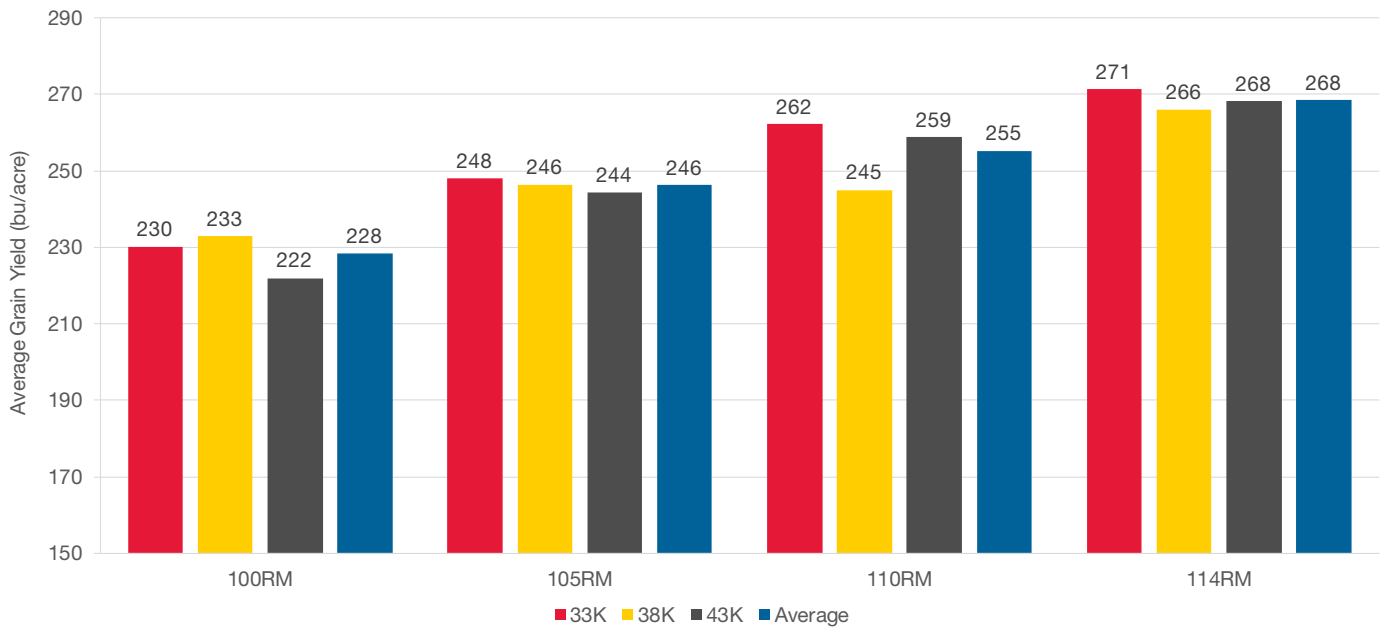
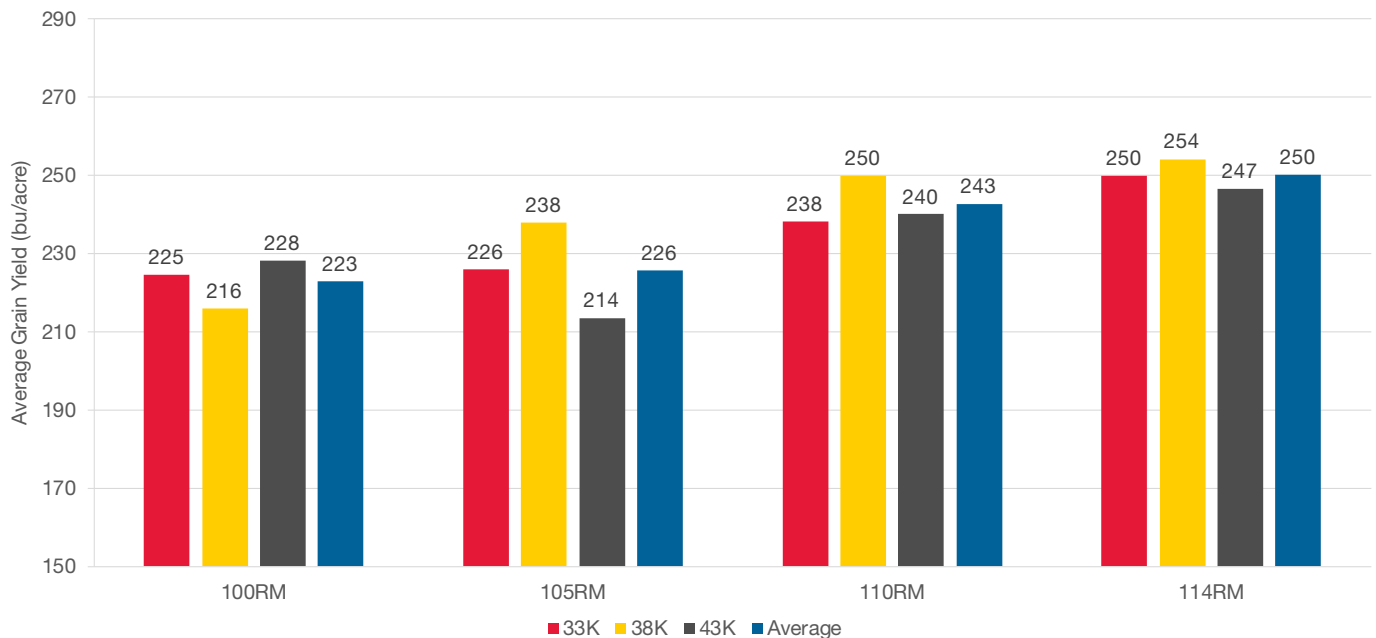

Figure 1. Effects of seeding rate on corn product performance in 20-inch row spacing.
Figure 2. Effects of seeding rate on corn product performance in 30-inch row spacing.
- Except for the 100 RM product, the seeding rate of 33K seeds/acre produced the highest yields in 20-inch row spacing (Figure 1) whereas 38K seeds/acre produced the highest yields in 30-inch row spacing (Figure 2).
- In both 20-inch and 30-inch row spacing, average yield (across all seeding rates) increased as the relative maturity of products increased, with up to a 40 bu/acre difference between the 100 RM and the 114 RM products in 20-inch row spacing (Figure 1) and a 27 bu/acre difference in 30-inch row spacing (Figure 2).